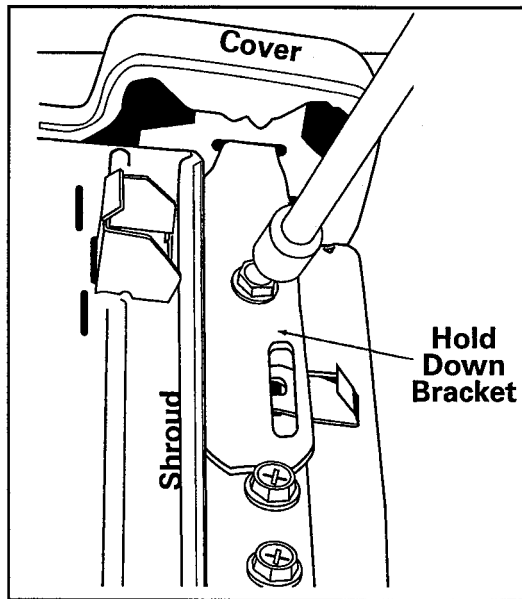

Figure 5-4
2. Locate and remove two 5/16" hex head screws securing the two hold down brackets for the top cover. (See Figure 5-4)